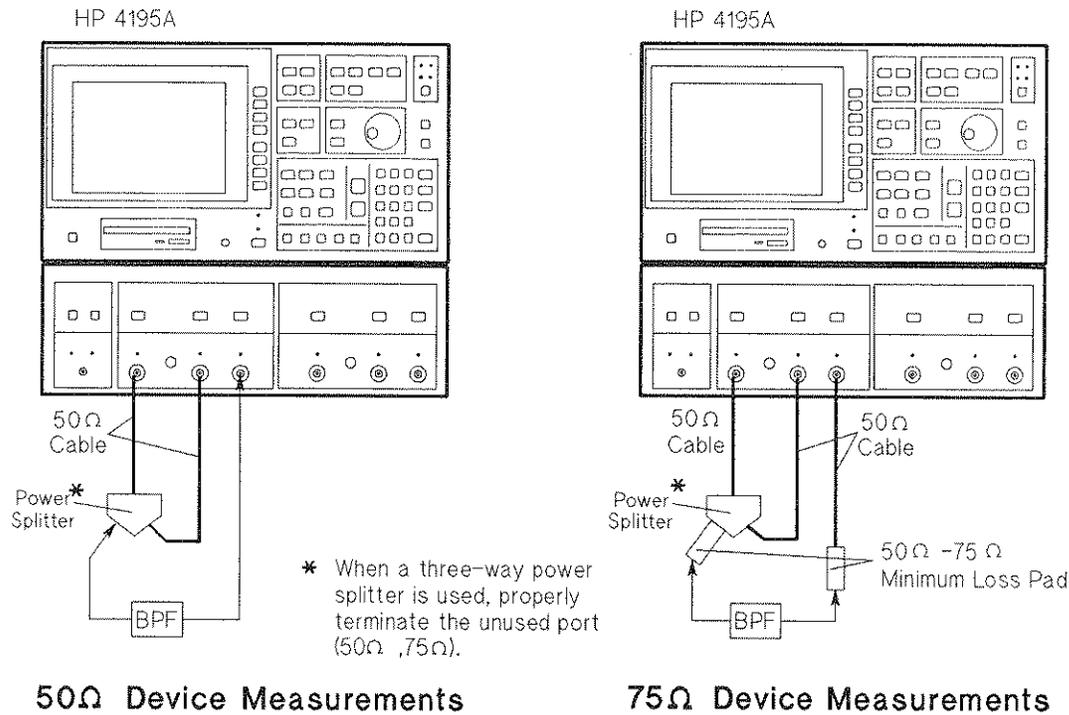

Figure 3-1. Network Measurement Example Setup
5. Connect the bandpass filter as shown in Figure 3-1.